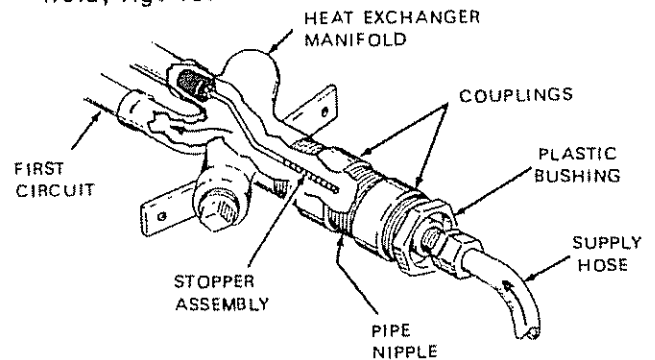

FIGURE 18
4. Insert one stopper firmly into one of the water passages of the heat exchanger manifold, fig. 18.
5. Install proper bushing from kit. It may be necessary to install a nipple and couplings to allow for clearance of the stopper rod, fig. 18.
6. Attach a plastic hose to the discharge side of the pump. Attach the other end of the hose to the bushing in the heat exchanger manifold, fig. 18.